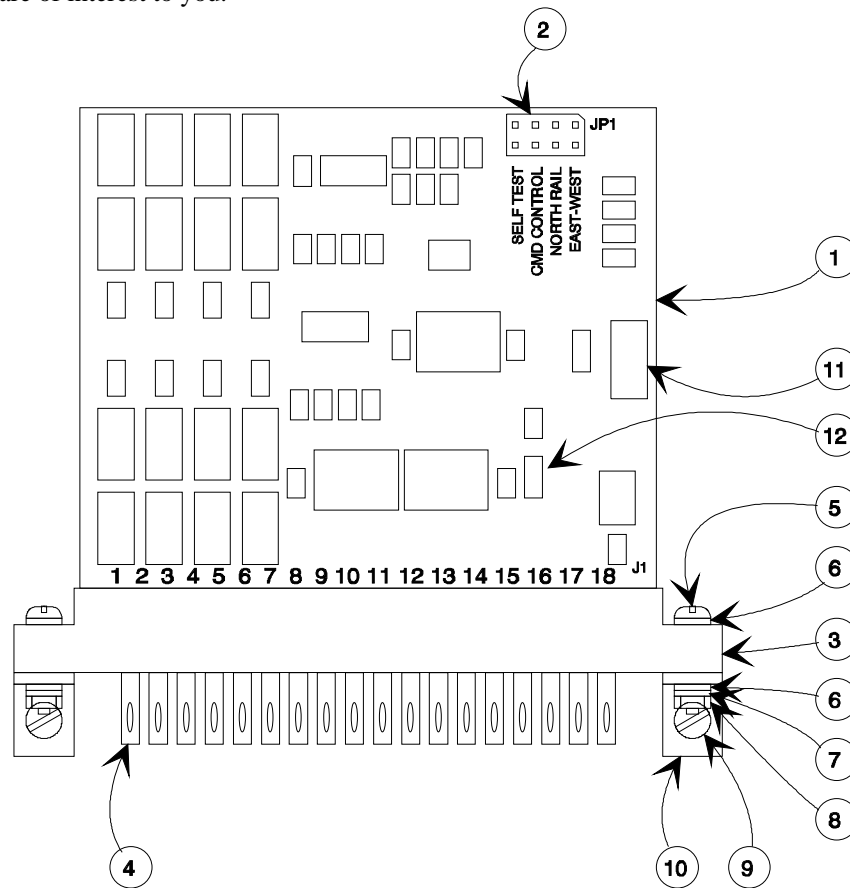

Figure 8-3 BD8 Board Assembly Diagram
Figure 8-3 BD8 Board Assembly Diagram below shows how your BD8 and related items will look when ready for installation. For your reference, the major items are identified individually. Other than the mode plug and its jumpers (item 2), the power supply indicator LED (item 12), and the voltages regulator and heat sink (item 11), none of the parts are of interest to you.